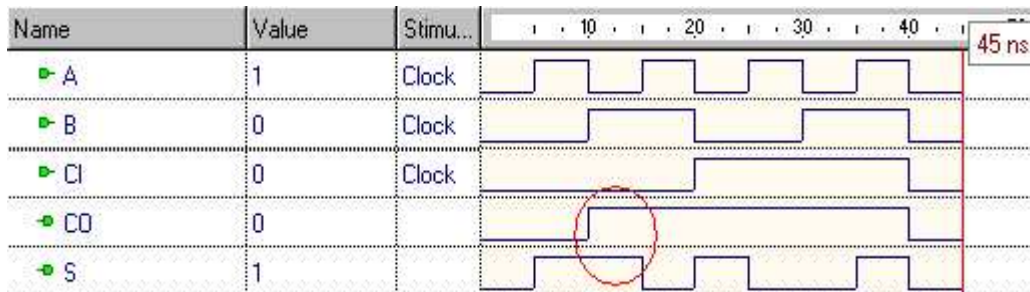

Figure 47
- We have now successfully compiled the design. We initialized a simulation, added the signals to a waveform, provided clock stimulators for the signals, and simulated the design. Figure 47 shows the results of this simulation. When comparing the waveform to the expected results (we used a truth table), everything looked fine until we got to the 10 to 15 ns period. The sum should have been 1 and the carryout should have been 0, but both were 1. This showed us that there was a logic error.